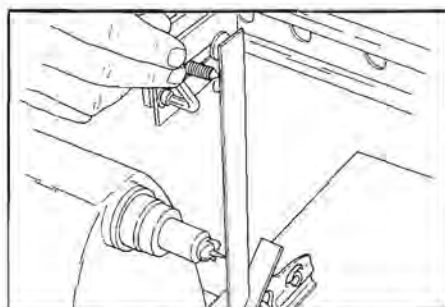

Figure 7. Check the back edge alignment of both tips.
2. Check the alignment at the back edge of both center tips. Use the square to check the alignment at the back edge of both tips. (See Figure 7.) If there is a gap between the tip of the template